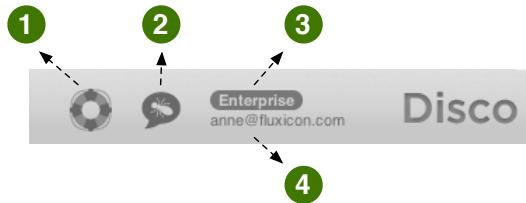
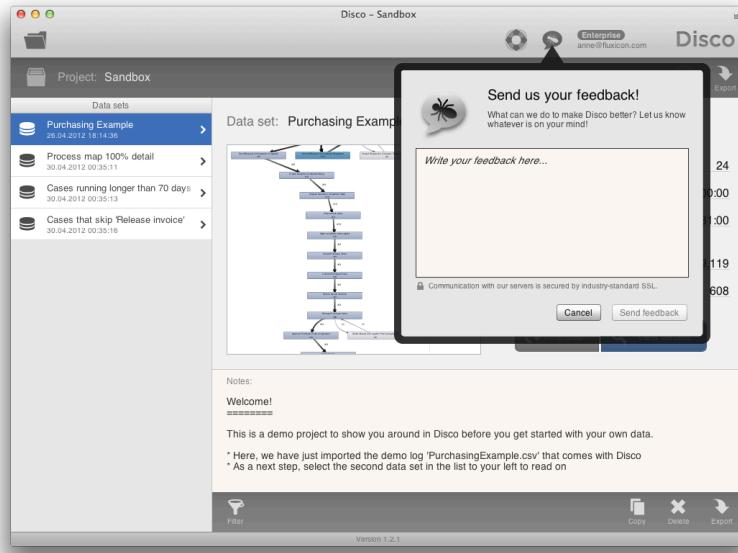

Fig. 8.1. Toolbar in the upper right corner of Disco.
Fig. 8.3. The feedback button sends your comments or improvement suggestions to us right from Disco.
In the upper right corner of Disco, you find a toolbar that is accessible from any view in Disco (see Figure 8.1).
If you are lost at a later point in time, you can bring back these sticky notes anytime by clicking on the lifebelt symbol in the toolbar (❶ in Figure 8.1). You can them disappear again clicking on the lifebelt symbol again or by clicking anywhere else in the Disco application screen.
The feedback button in the toolbar (❷ in Figure 8.1) brings up a pop-over as shown in Figure 8.3, which allows you quickly drop some notes that will be sent right to the inbox of Disco's developers.
When you click on the badge with your license type (❸ in Figure 8.1), then you get an overview of the licensing terms and the detailed license agreement that you
The email address that you used to register Disco is displayed in the toolbar (❸ in Figure 8.1). When you click on your email address, the screen shown in Figure 8.5 will be shown.